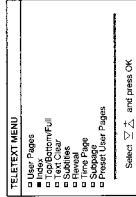

Fig. 35
- 2 Using **[Δ+]** or **[▽-]**, select the teletext function you want and press OK. (See Fig. 35)